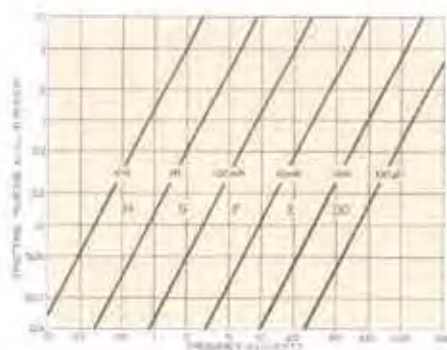

Figure 2. Change in effective inductance with frequency for the 940 Decade-Inductor Units.
**Frequency Characteristics:** For any specific operating frequency, Figure 2 shows the percentage increase in effective series inductance (above the value when  $f = 0$ ), which is encountered with the extreme settings of each of the five decade-inductor units when the chassis is floating. Interpolation may be used for intermediate settings.